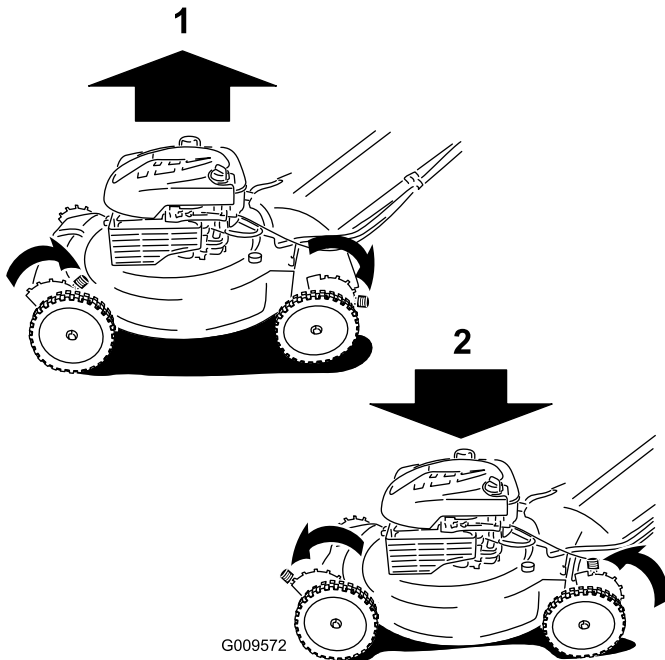

Figure 9
**Note:** To raise the mower, move all the cutting height levers rearward. To lower the mower, move all the cutting height levers forward (Figure 9).